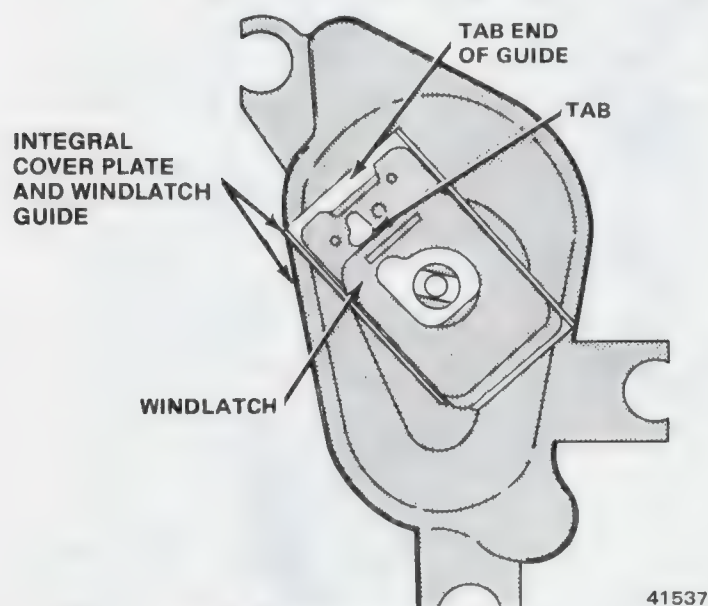

Fig. 3T-14 Windlatch Installation
(5) Unclip windlatch spring from guide and remove (fig. 3T-15).